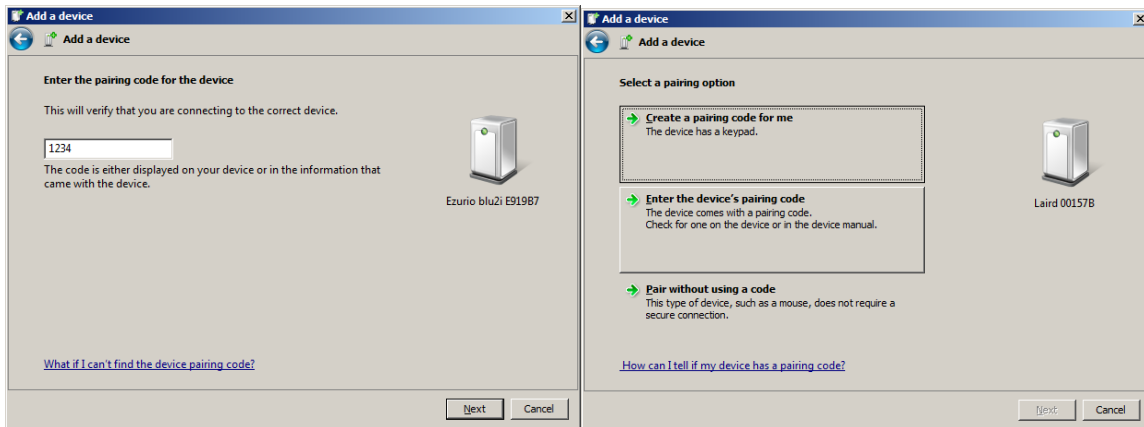

Figure 6: Enter the device's pairing code
4. Select **Enter the device's pairing code** (Figure 6). This was set to "1234" via AT+BTK="1234" in the Preparation.